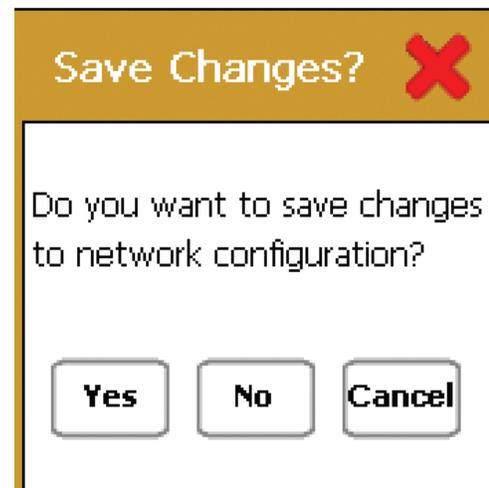

Figure 2.6: Save Changes
- Once all the addresses have been entered, touch the 'EXIT' button, Figure 2.5a: Exit and a pop-up warning window, Figure 2.6: Save Changes will appear to confirm the numerical entries: